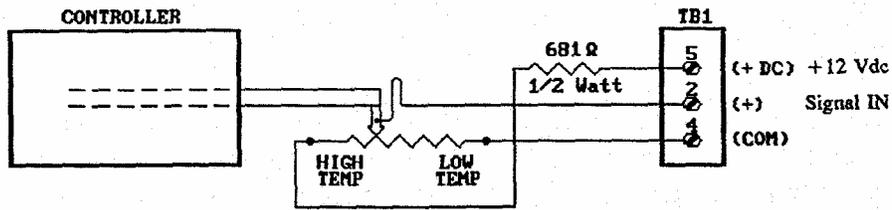

Figure 3-8. Slidewire Control
When connecting a 1Z for control by a temperature-controlled slidewire potentiometer, install a 681Ω resistor in series with the slidewire, as shown in Figure 3-8 ($815\Omega - 135\Omega = 680\Omega$).
- d. Connect the controller as shown in Figure 3-8.